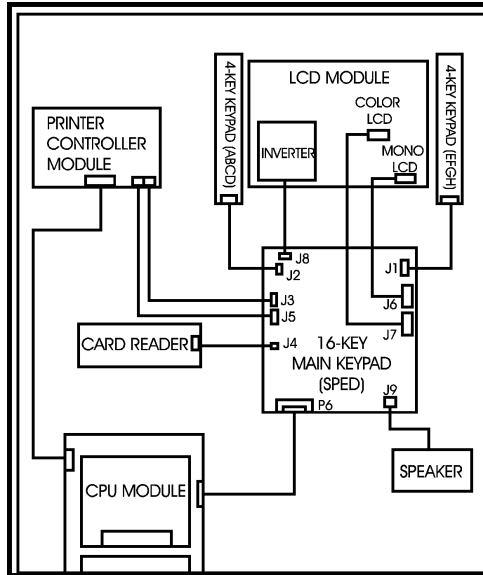

Figure 2. Main Keypad Interconnect.
3. Disconnect the cables from the following connectors on the Main Keypad PCB Assembly (See Figure 2):